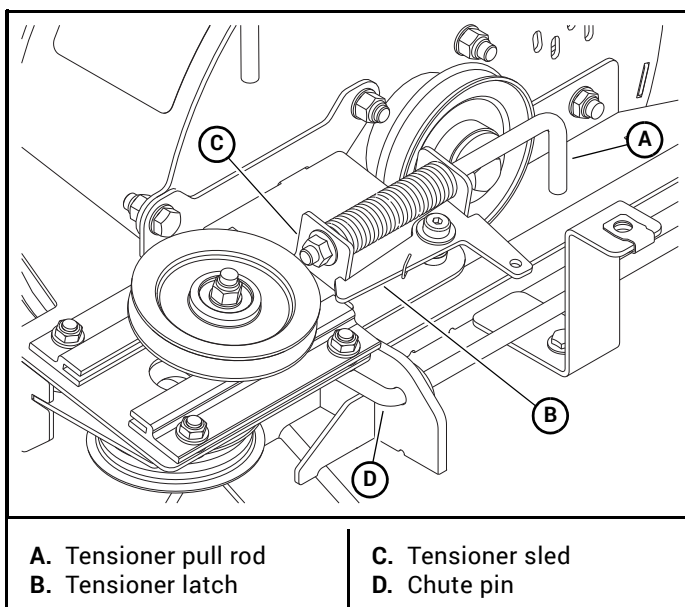

Figure 3-12
18. Pull the tensioner pull rod to engage the tensioner latch on the tensioner sled before installing the blower belt. **IMPORTANT:** Make sure the head of the chute pin is pointing towards the blower unit. Figure 3-12